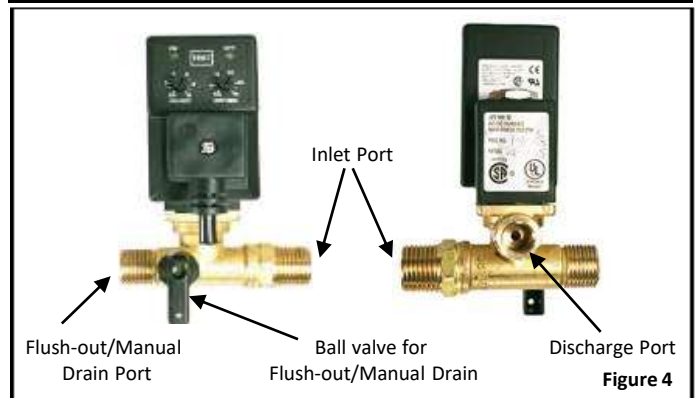

Figure 4
1. Figure 4 shows the location of the inlet port, the outlet port, and the strainer flush out port, and flush out ball valve/manual drain.